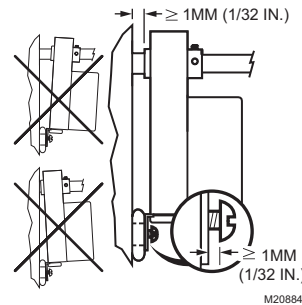

Fig. 6. Proper actuator mounting to prevent rotation.
4. With the actuator placed in its final position, fix the mounting tab in position with a 1/4 in. screw or pin. See Fig. 6.